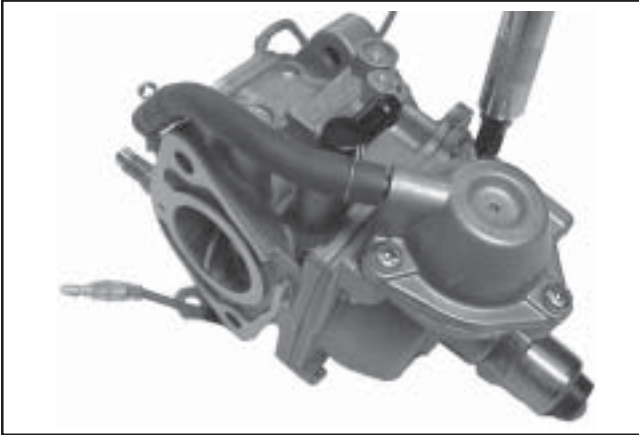

Figure 5-34. Installing Accelerator Pump Housing Screws and Hose.
7. Install the new diaphragm spring and reinstall the accelerator pump cover. Secure with the three new screws. Torque the screws to $2.0 \pm 0.6 \text{ N}\cdot\text{m}$ ($18.2 \pm 5.2 \text{ in. lb.}$). See Figure 5-34.
8. Install the new clips onto each end of the new vacuum hose, and connect the hose onto the fittings. See Figure 5-34. Discard all the old parts.